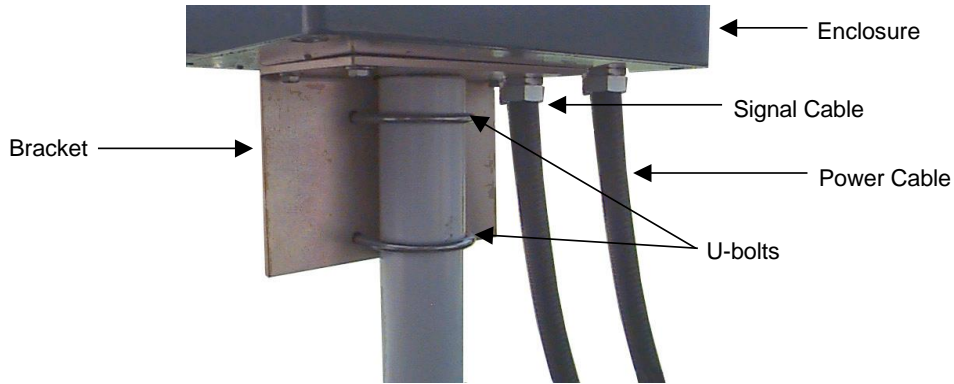

Figure 2. Sensor Package Mounting
6. Set the sensor package (antenna, ground plane, enclosure, and bracket) on the mast, and fasten loosely with two U-bolts, lock washers, and flat washers as shown in Figure 2.